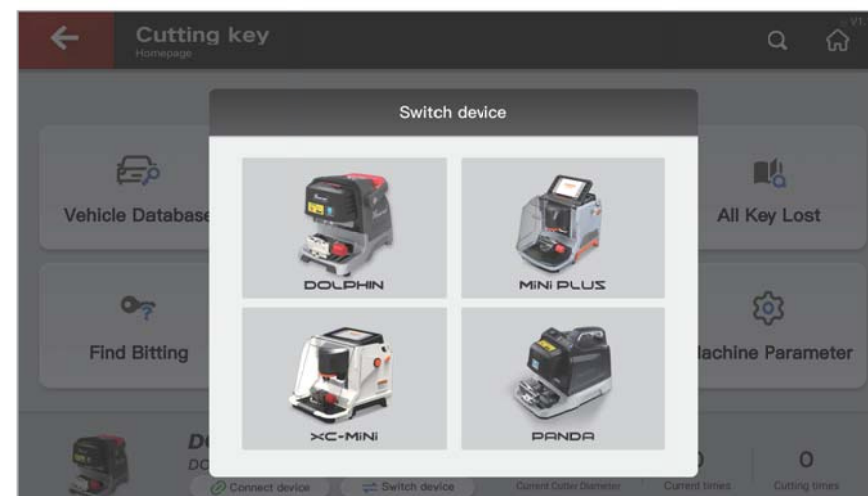

Fig.9.1.1
- Click 'Switch device', select the machine you need as shown in Fig. 9.1.1. Machines that are compatible with KEY TOOL PLUS include DOLPHIN, Mini PLUS, XC Mini and PANDA.